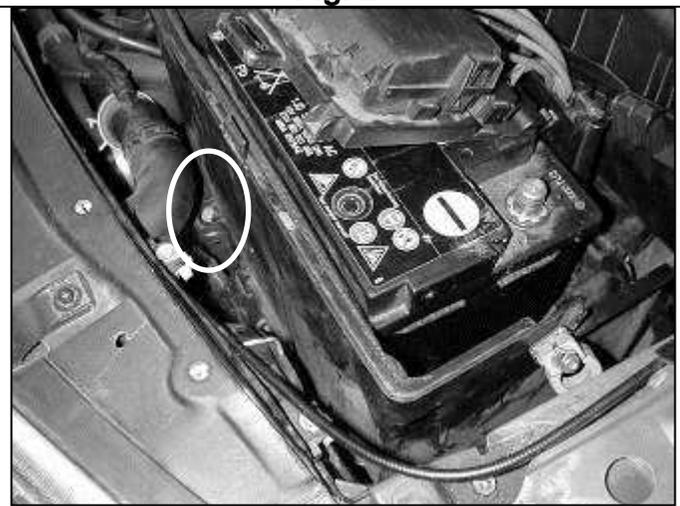

Fig. 4
- d. Remove the three bolts that secure the plastic battery box in place. Two bolts are located at the rear of the battery, on either side of the plastic wire tunnel. The third bolt is located on the radiator side of the battery. (Fig. 4)